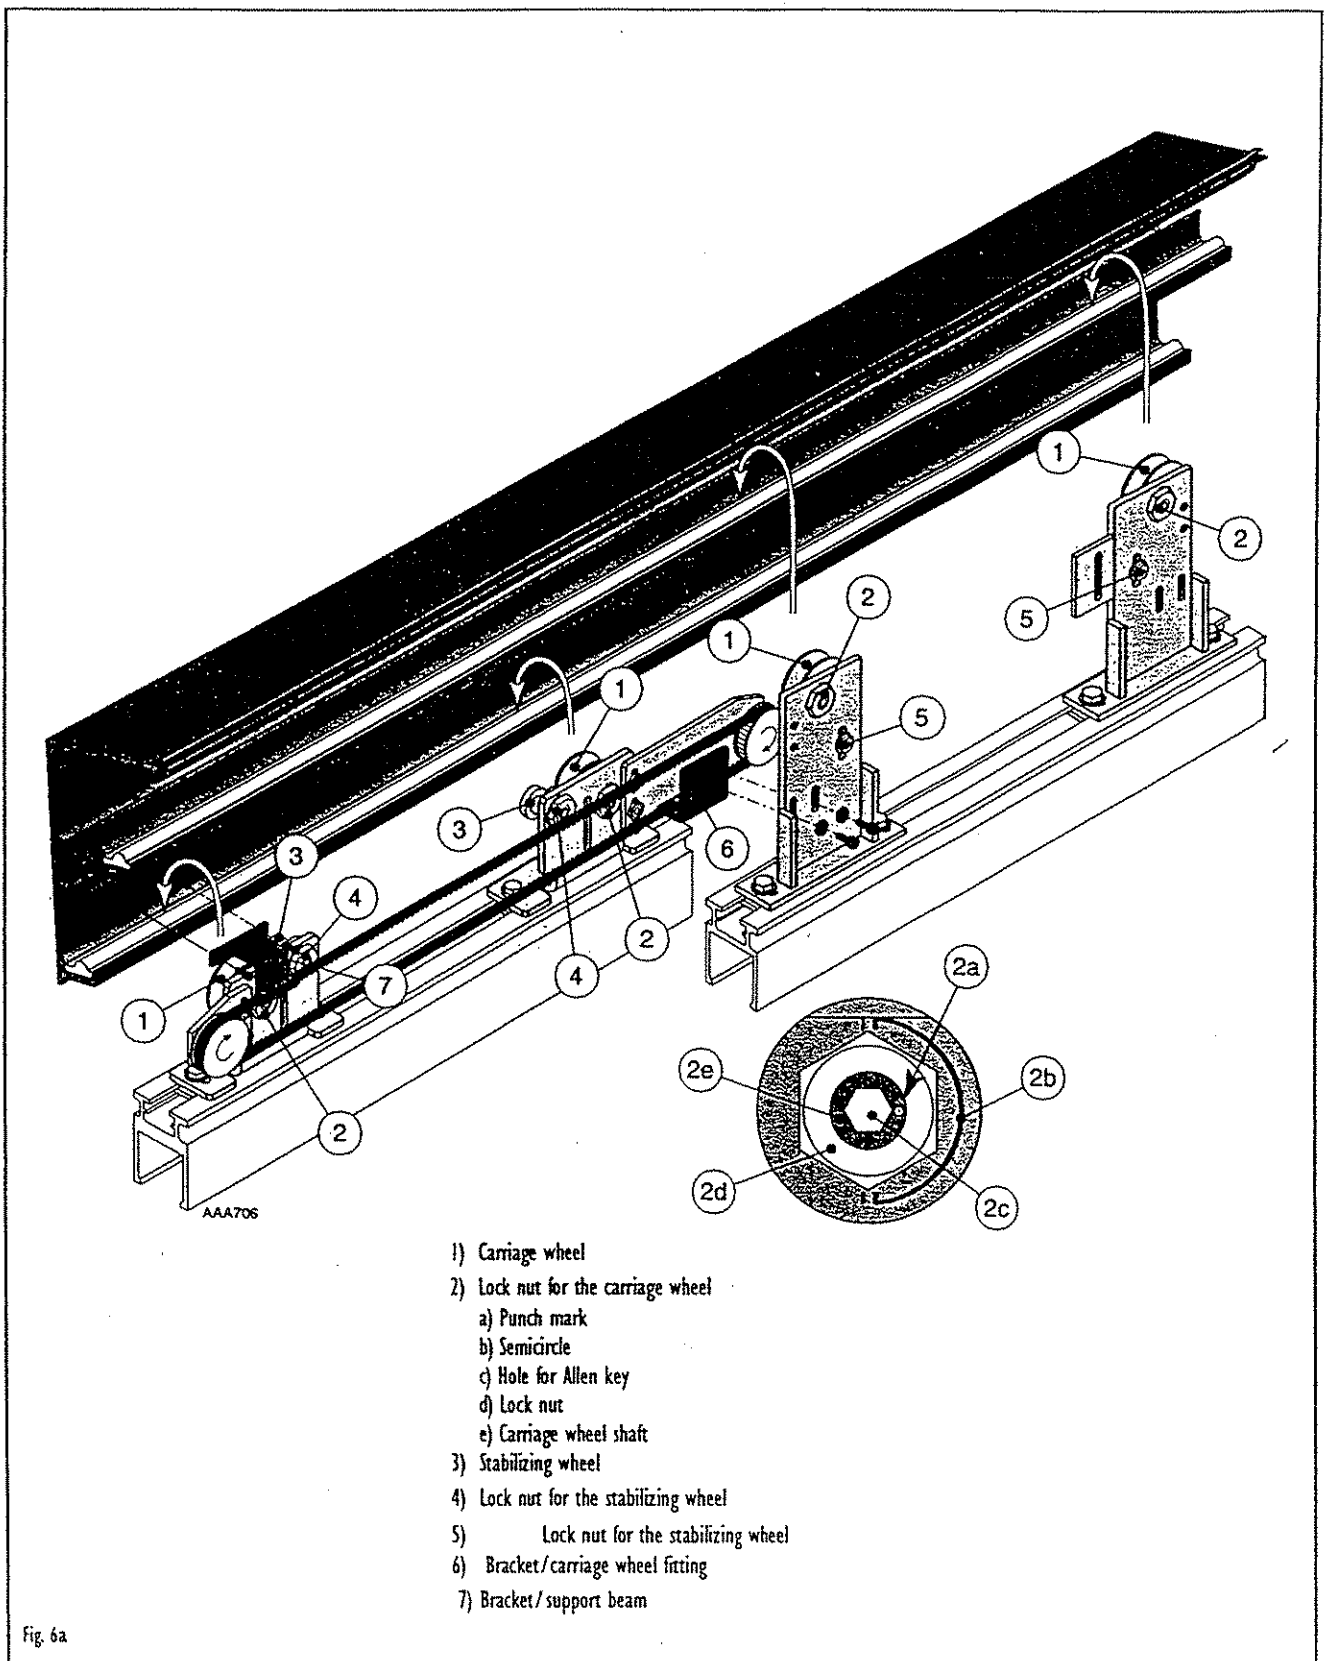

Fig. 6a
1. Loosen the stabilizing wheel lock nut and turn the wheel to its lowest position (see fig. 6a).
1. Loosen the screw for the stabilizing wheel and move it to its lowest position (see fig. 6a).
Refastening of brackets and fittings (see fig. 6a)